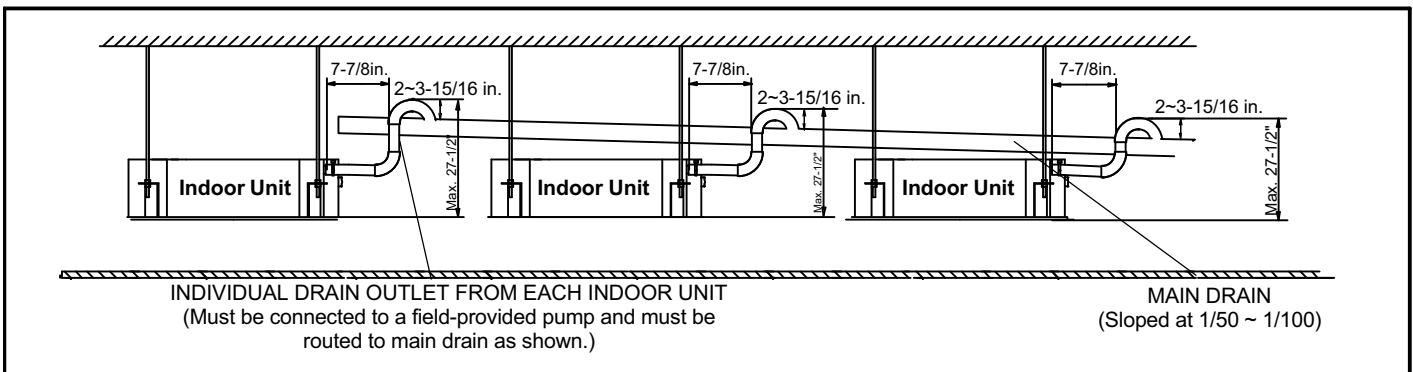

Figure 12. Using a Main Drain to Serve Multiple Indoor Units with Field-Provided Condensate Pumps
- 5 - See figure 12 for applications including multiple units using the optional drain pump to provide lift into a single, correctly sized main drain. In this case, ensure that the main drain line is properly sloped (no less than 1/4 inch per foot) and that each individual drain is connected to the main drain exactly as shown.